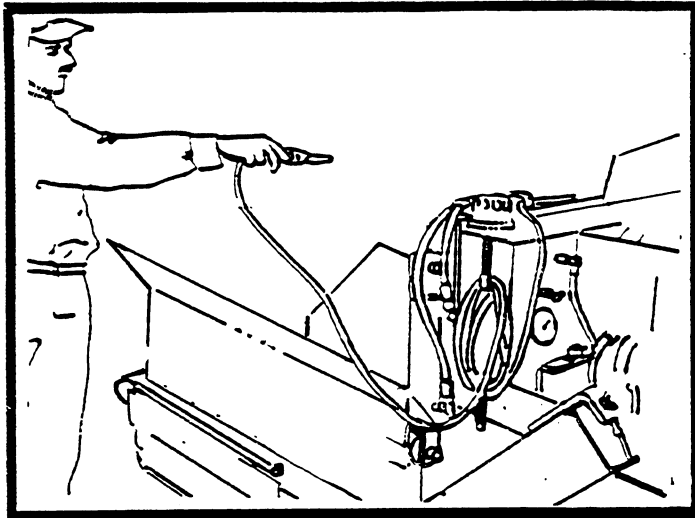

FIGURE 19
1. Raise screed and extend fully on both sides. Lubricate screed inserts with fuel oil and run the extendable screed in and out several times. Make sure end gate depth screw handles are locked after moving extensions to the desired depth. Spray the hopper and augers, auger gates of the screed plate with fuel oil as shown in Figure 19 and 20.